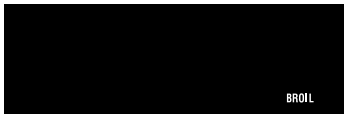

Fig. 1
4. Press **start** (See Fig. 1) to activate.